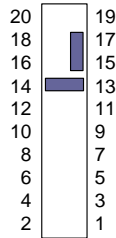

Figure 3 Jumper Settings
- (1) On the main board, the jumper block labeled J2 should be configured as follows: 1-2, 3-4, 5-6, 7-8, 9-10, 11-12, 19-20 are off (no shunts installed). A shunt should be installed on pins 13-14 and on pins 15-17 (see Figure 3 below for proper configuration - shaded areas indicate that the jumper should be installed). This